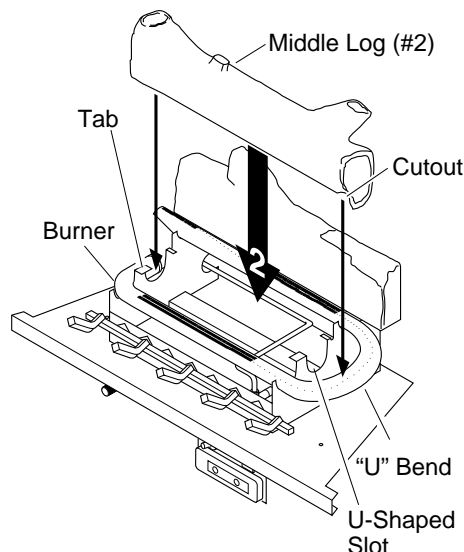

Figure 41 - Installing Middle Log (#2)
2. Place the base of the middle log (#2) in the U-shaped slots of the grate base in front of the back log. The cutout on the right of the middle log should fit over the burner (see Figure 41). Make sure the front of the middle log is resting on the tabs of the grate base and the cutout area is centered over the burner "U" bend.